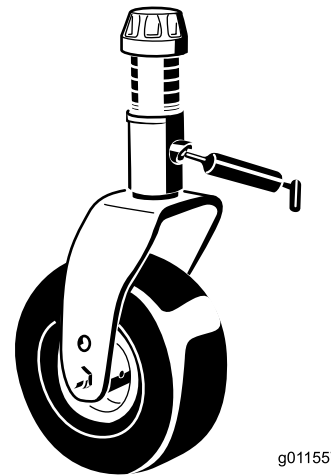

Figure 61
- Castor fork shaft bushings (2) (Figure 61)